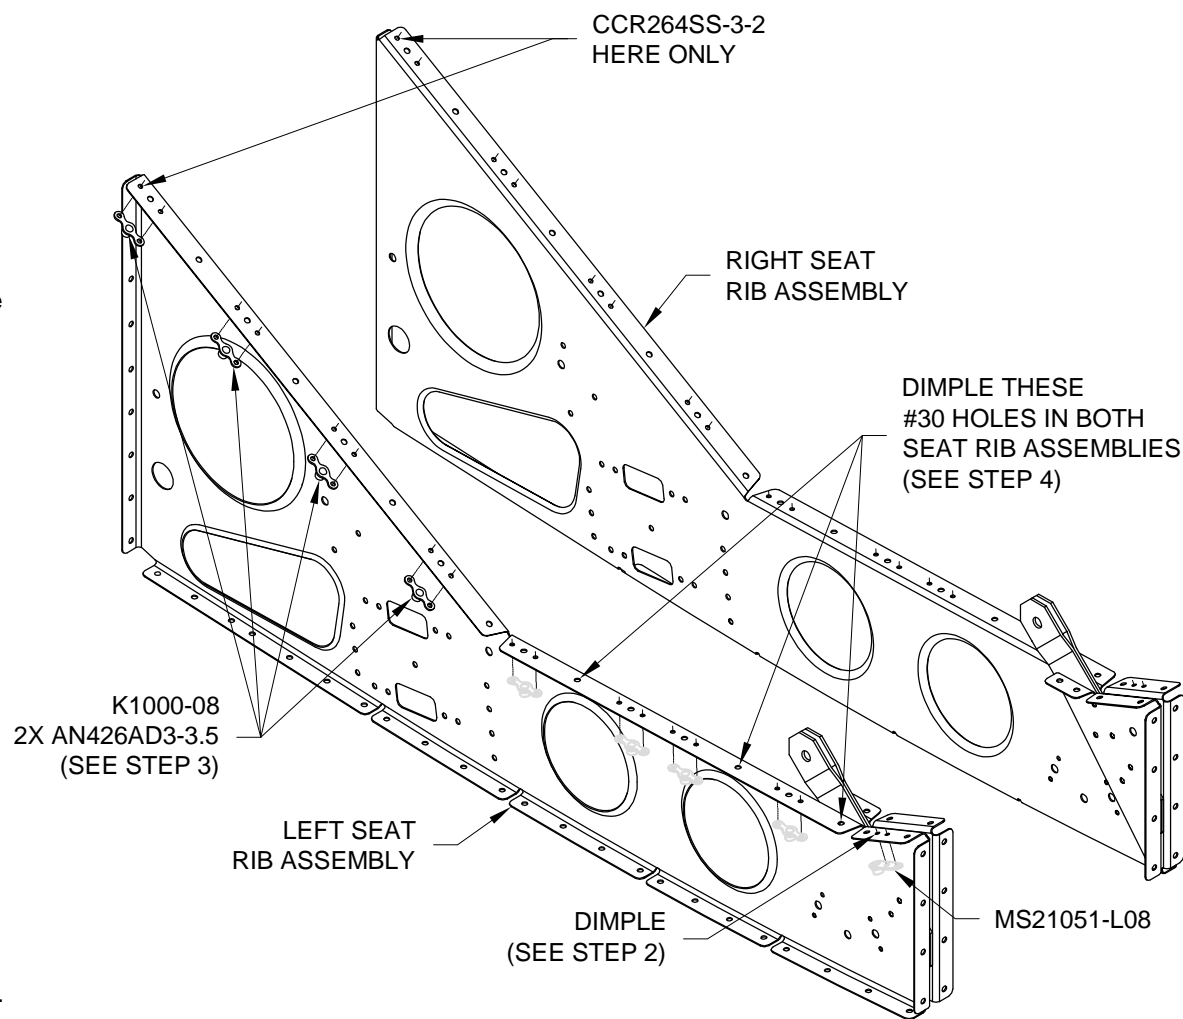

FIGURE 1: PREPARING SEAT RIB ASSEMBLIES
Step 2: Dimple the indicated attach hole for the MS21051-L08 nutplate in the aft, sloped flange of the two Seat Rib Assemblies. (The second attach hole has been factory dimpled.) See Figure 1.
Step 3: Dimple the four K1000-08 nutplates called out in Figure 1, then rivet them to both Seat Rib Assemblies. The five remaining nutplates are installed on Pages 21-7 and 21-8.
Step 4: In both Seat Rib Assemblies, dimple (flush on top surface) the three #30 holes indicated in Figure 1.
Step 7: Dimple the nutplates shown in Figure 3 and the corresponding holes in the Left Seat Rib Assembly (the left seat rib assembly from Figure 1), then rivet the nutplates in place using the rivets called out.